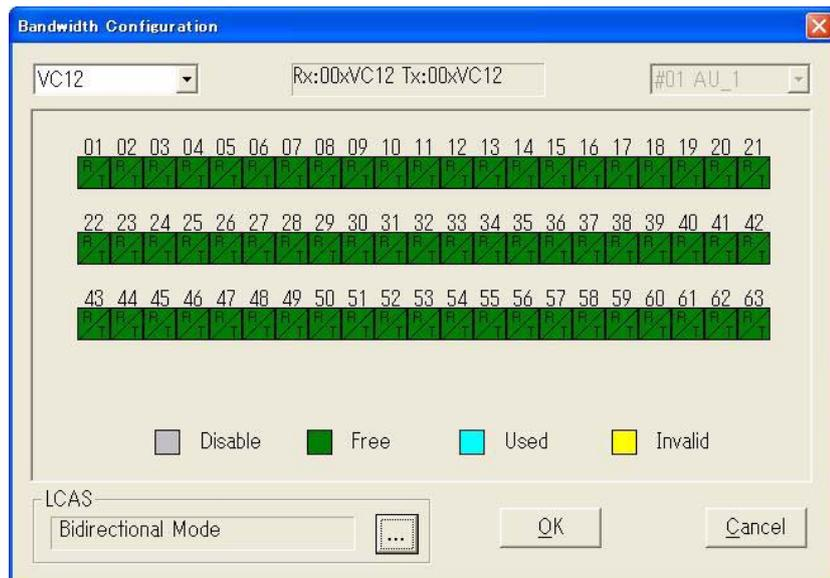
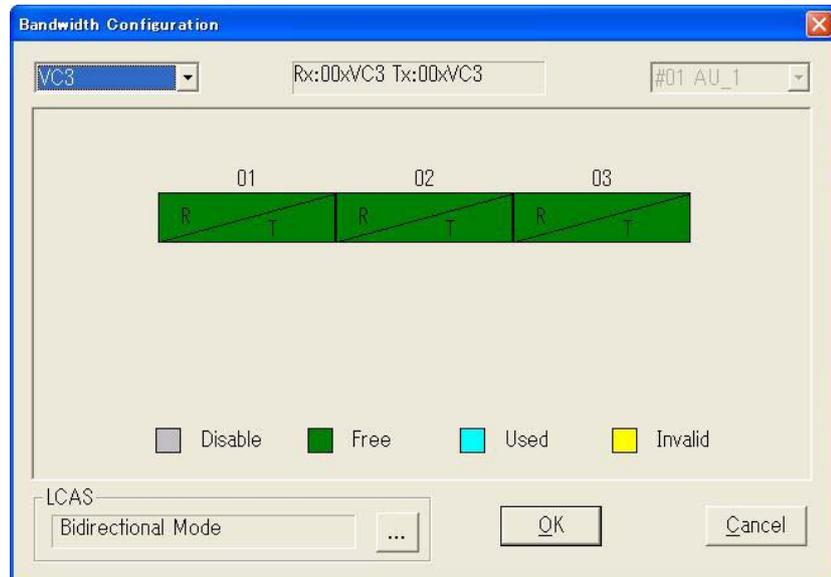

Fig. 4-4-88 VC12 Bandwidth Configuration Dialog Box
Fig. 4-4-89 VC3 Bandwidth Configuration Dialog Box
- 1 Double click a row of record then **Bandwidth Configuration** dialog box of corresponding port will be shown in **Fig. 4-4-88** appears:
- 2 Choose **VC12/VC3** in drop down list box of left upper window. If choosing **VC12**, **Bandwidth Configuration** Dialog box is shown in *Fig. 4-4-88*. If choosing **VC3**, **Bandwidth Configuration** Dialog box is shown in *Fig. 4-4-89*.
- 3 In *Fig. 4-4-88* and *Fig. 4-4-89*, click time slot (TS) number according to requirement.